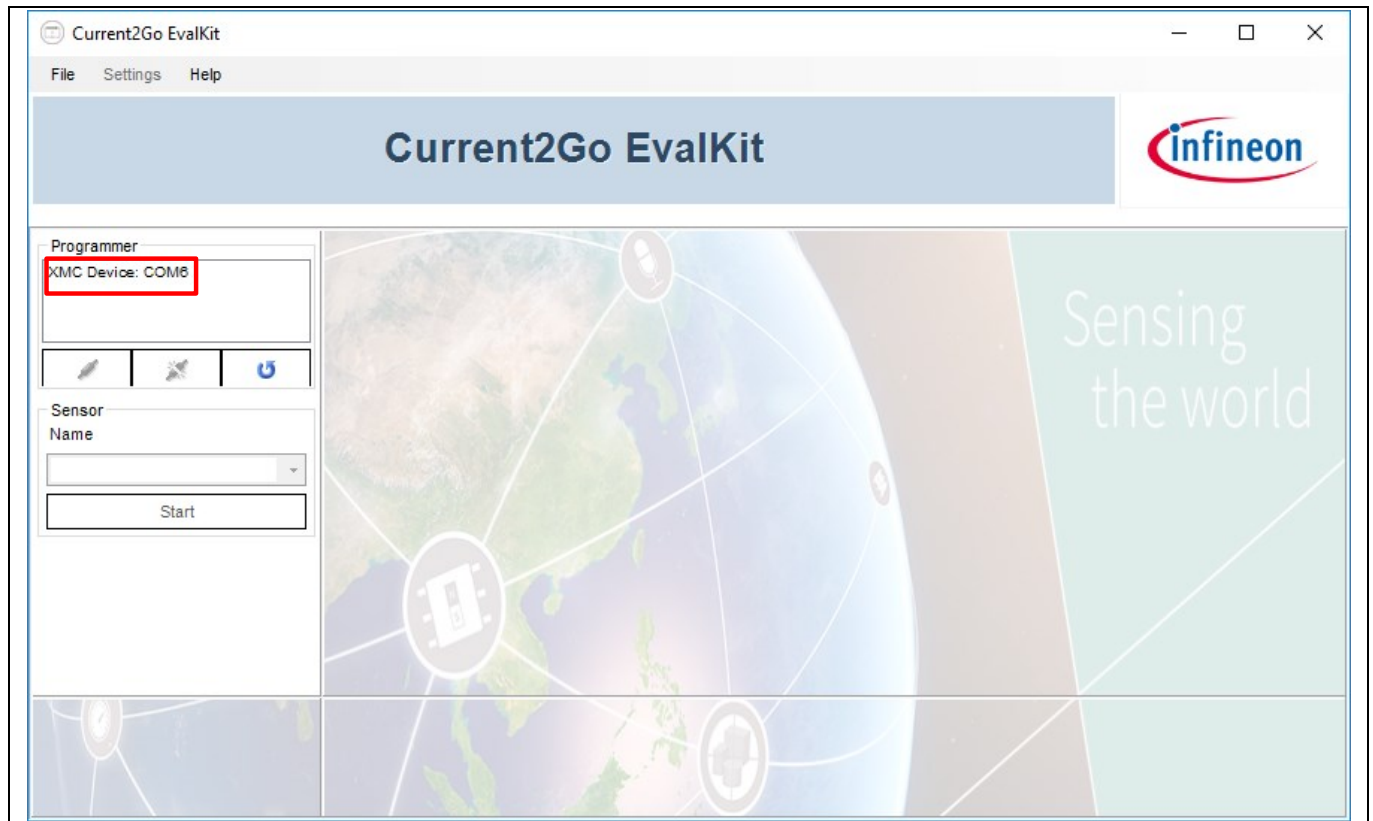

Figure 12 Log and Evalkit Software Window
- If the MS2Go kit is connected to a PC through the USB cable and the connection is successful, then a window called “Current2GO EvalKit” will pop up as shown in Figure 12.